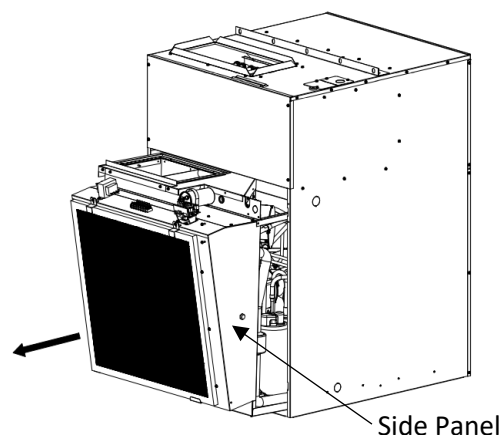

FIGURE 46 - Slide Out Air Conditioner Module
- 4) Slide-out air conditioner module using handles as shown in Figure 46- Slide Out Air Conditioner Module.